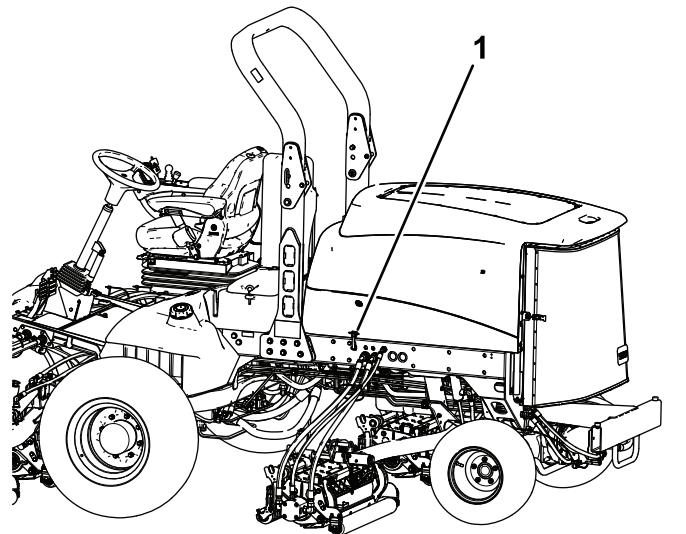

Figure 80
1. Release the hood latches (Figure 80) and pivot open the hood.